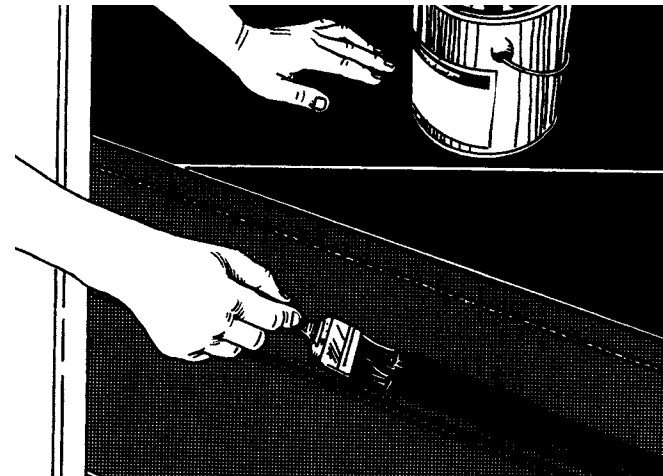

Fig. 5-14
22. Apply one even layer/coat of the specified cement over the entire fabric step area starting at the first ply fabric cut (Fig. 5-14).